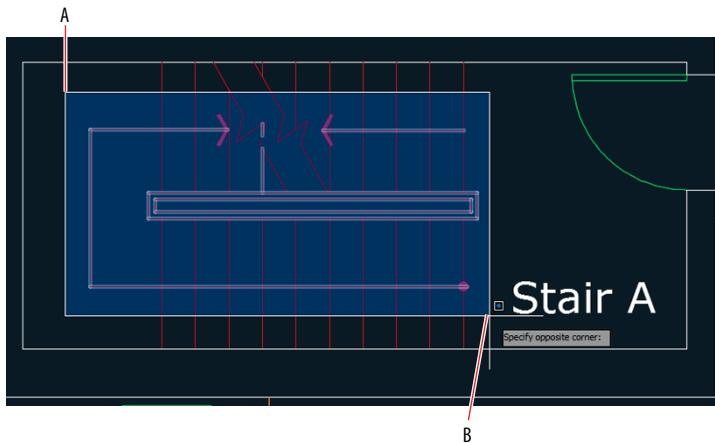

FIGURE 4.2 Drawing an implied window
3. Click point A and then B, as shown in Figure 4.2. Observe that a transparent *implied window* appears between these points. The objects that are selected are only those completely contained within the borders of the blue window. This particular selection includes the stair arrows, handrails, and three lines representing stair treads near the break lines.